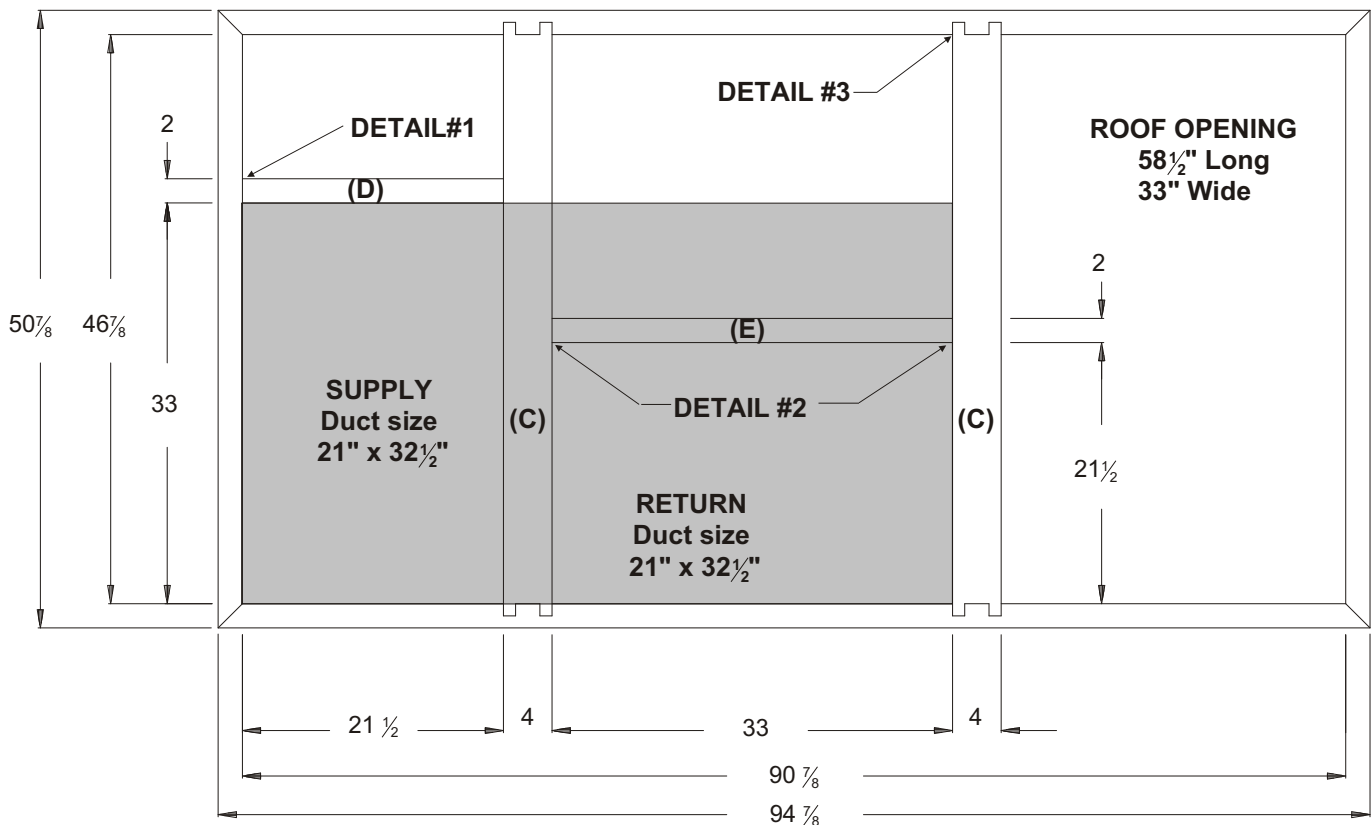

Figure 6
Install the vertical duct support (C) as shown with opening over the desired duct location (Figure 6).
Install the horizontal duct support (D) as shown (Figure 6).
Install the horizontal duct support (E) as shown (Figure 6).